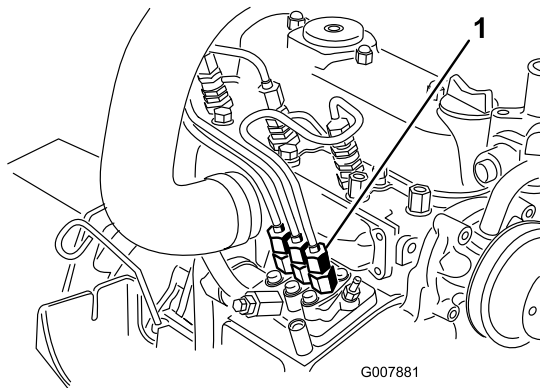

Figure 45
1. Place a rag under the pipe connection coming from the injection pump to the No. 1 injector nozzle as illustrated in Figure 45.